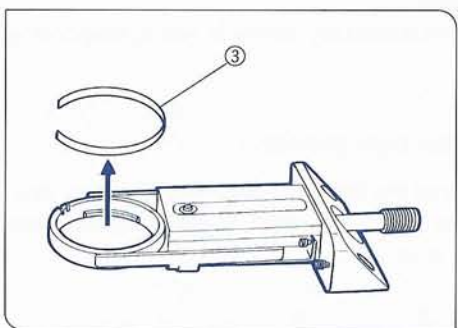

Fig. 27
3. Using tweezers, etc., remove the retaining ring ③ inserted into the filter holder. (Fig. 27)
6. If the filter is less than 2.7 mm thick, insert also the retaining ring ③.